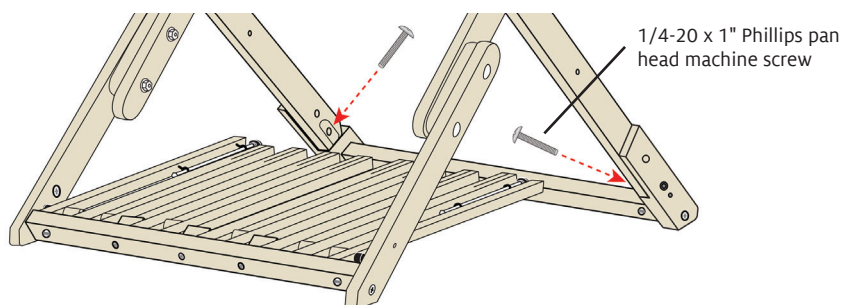

FIGURE 4: ATTACH OUTSIDE BLOCKS TO OUTSIDE LEGS, LOWER HOLES
8. Attach legs to the lower holes of height extender blocks: From inside the loom, insert a 1/4-20 x 1" Phillips pan head machine screw through the large hole at the bottom of the left outside leg (where the rear leg brace used to attach) and into the second hole from the top of the LO block (Figure 4). Attach this screw firmly to the height extender block. Repeat for the right outside leg and RO block.